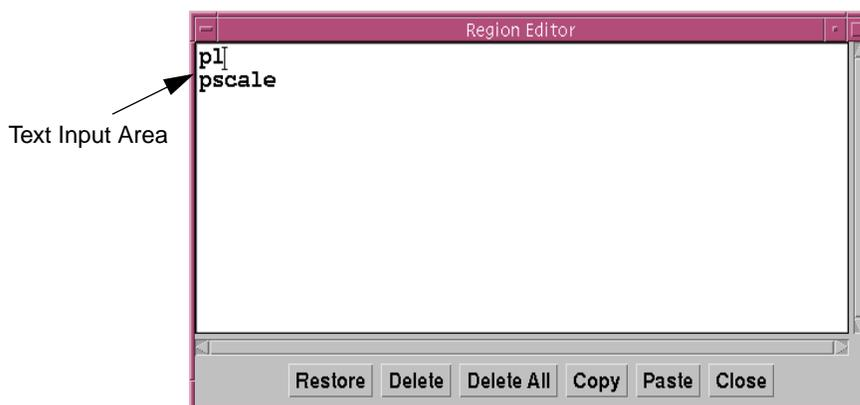

Figure 72. Region Editor Window
4. If a region is not already selected, click the middle mouse button inside it, then click **Region-Edit** to open the Region Editor window shown in Figure 72. Region Editor is a text editor in which you can enter commands to change an imported plot.